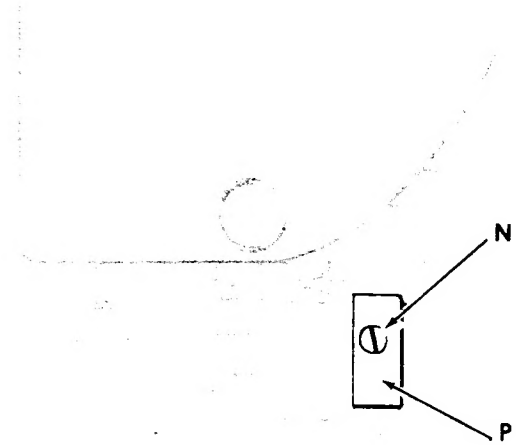

Fig. 34. Timing the Feed
- Loosen set screw **N** in feed eccentric **P**, **Fig. 34**.